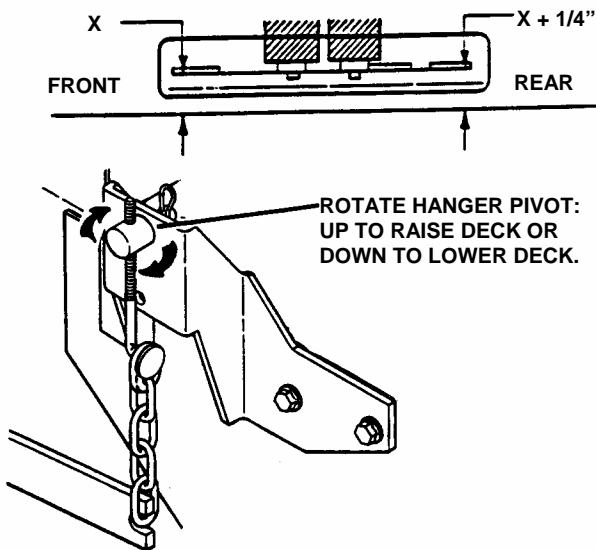

FIGURE 4.8
- b. Turn each hanger pivot the same number of rotations on the eye-bolt to raise or lower the rear of the deck. See Figure 4.8.